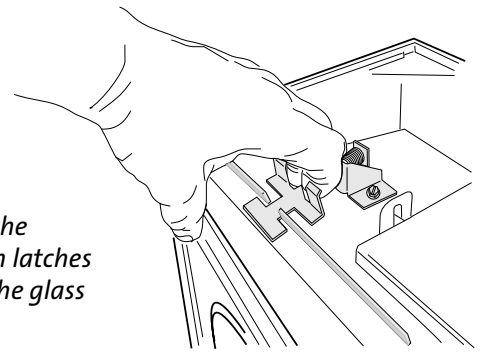

Figure 48.
2. **Remove the Glass Frame.** Disengage the two compression latches located at the top of the firebox and lift the glass frame up and off of the stove. See fig. 48.